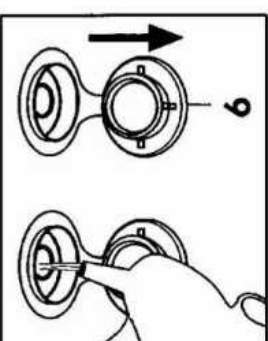

Fig. 7
Open the water fill cap (9) by hand; turn the bottle upside down with the tap over the boiler hole and empty the contents of the bottle into the boiler. When the tank is full, close the cap (9) (**Fig. 7**)